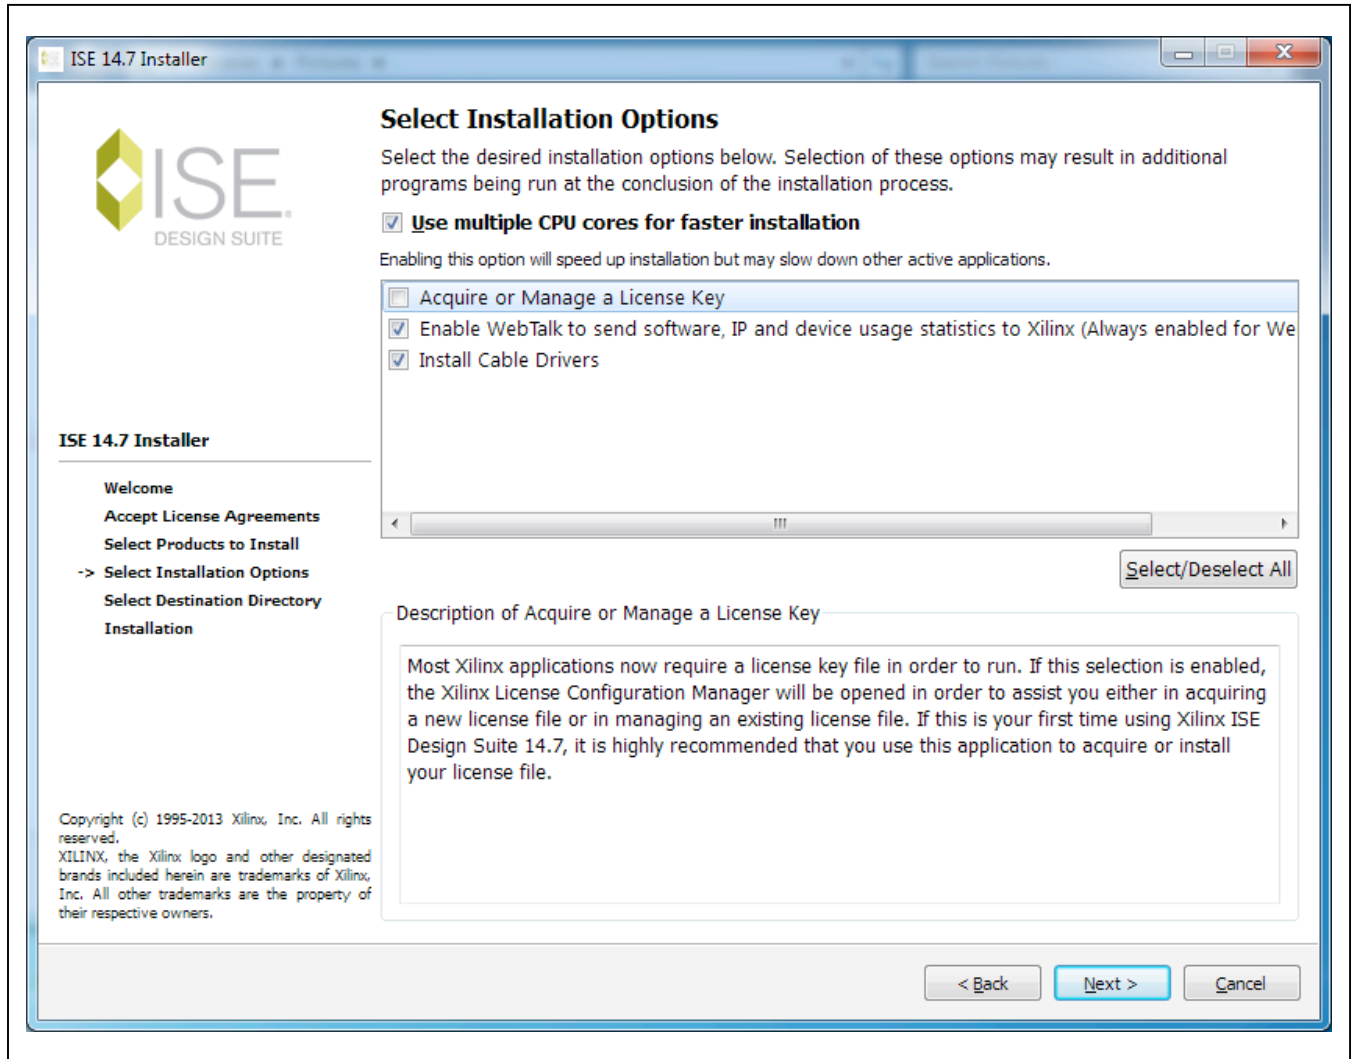

Figure A1-2. LabTools Installation – Uncheck “Acquire or Manage License Keys”
- 6) The **Select Installation Options** page will appear (Figure A1-2), uncheck the **Acquire or Manage a License Key** option and click **Next >** to continue